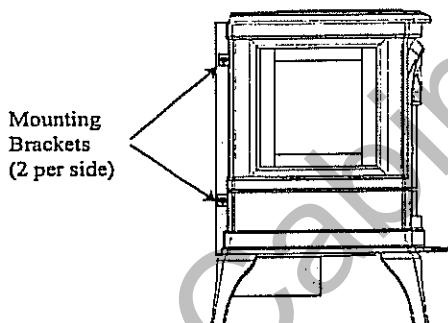

Figure 1: Side view of the fireplace showing the firebox mounting brackets.
4. Locate the firebox mounting brackets on the side of the firebox. Remove the screws securing the firebox to the mounting brackets. See Figure 1.